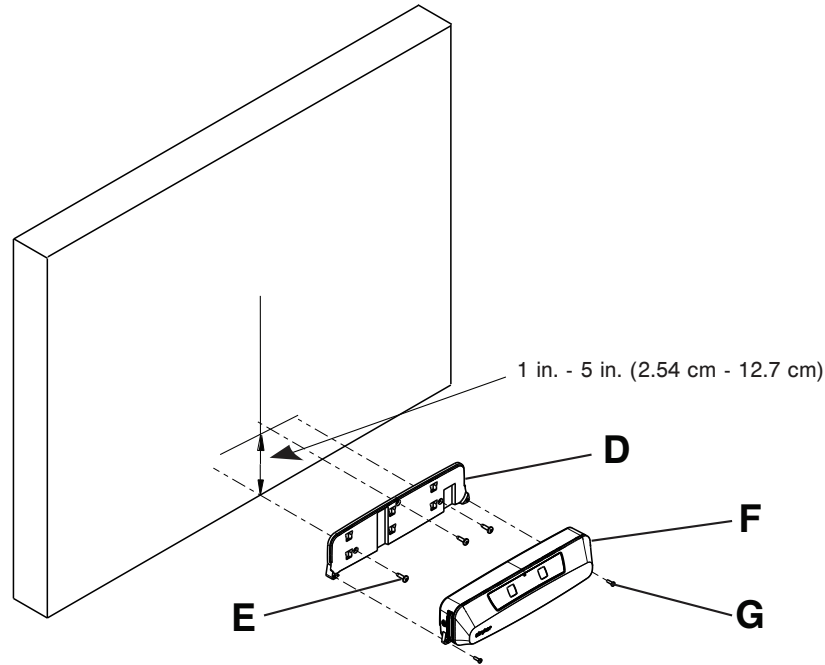

Figure 9 – Mounting specifications
2. Using a #1 Phillips screwdriver, remove the two screws (G) that secure the Secure Connect (F) to the mounting plate (D) (Figure 9). Save the two screws.